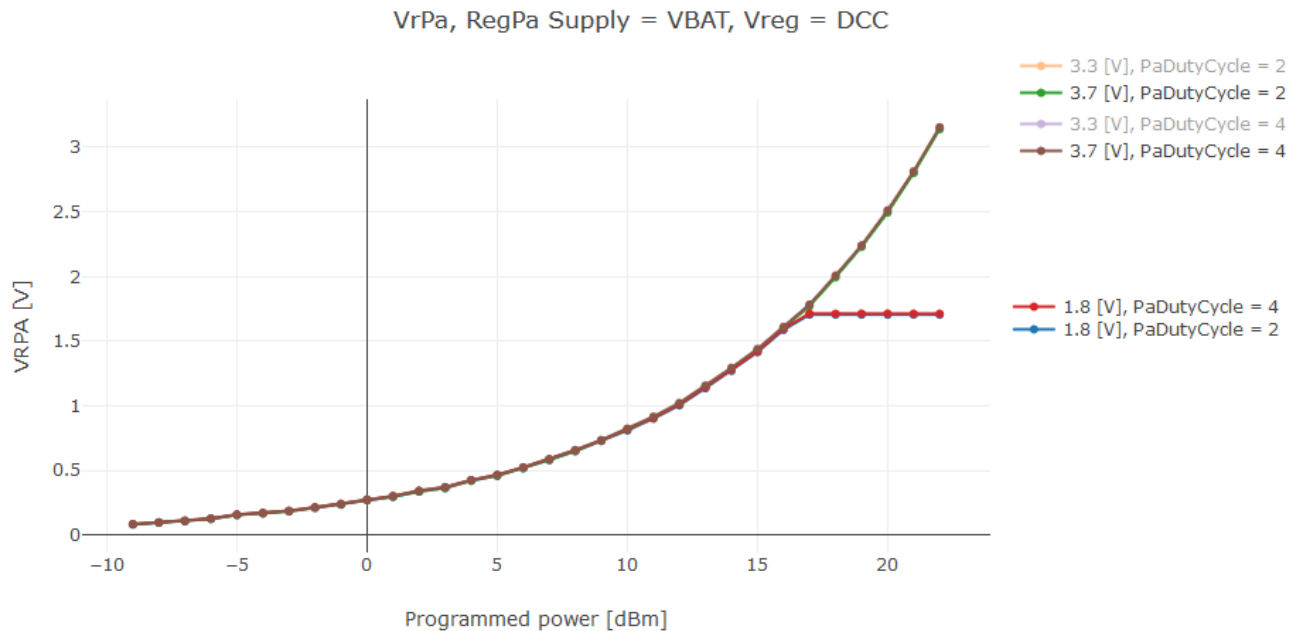

Figure 9-4: High Power PA VR_PA Voltage vs. TxPower
The VR_PA variation over the programmed power *TxPower* for different supply voltages and duty cycle (*PaDutyCycle*) conditions is depicted in Figure 9-4: High Power PA VR_PA Voltage vs. TxPower below.
- For the +22dBm power setting, a VR_PA of ~3.1 V is required (refer to Figure 9-4). Therefore, given the 200 mV drop-out of the PA regulator, the +22 dBm output power can only be obtained from a 3.3 V to 3.7 V supply voltage range.